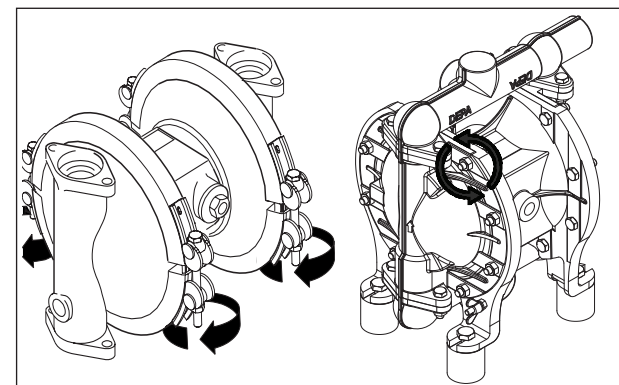

Fig. 9: Open clamp bands or undo screws (on screwed pump version).
- Loosen the clamp bands (to avoid sizing of high-grade steel nuts and bolts, if necessary apply some oil) (Fig. 9).